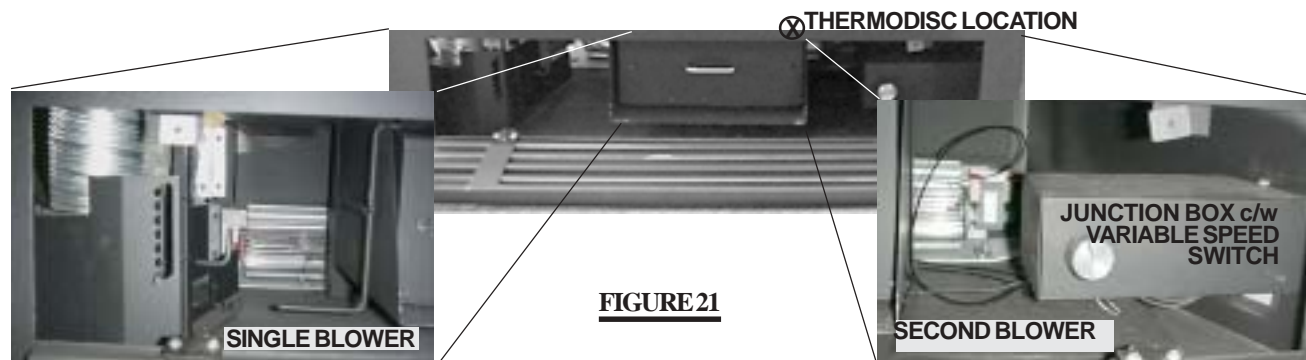

FIGURE 21
5. Pass the two blower leads and one thermodisc lead through the junction box bushing. The thermodisc is located inside the outer shell, just above the louvre door. **FIGURE 21.** Connect one blower lead to the thermodisc lead using a nut connector and the other blower lead to the white power supply wire using a nut connector.